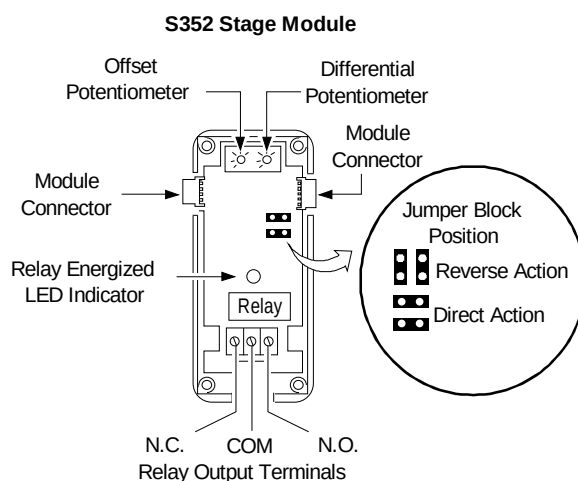

Figure 6: S352 Stage Module Adjustment Potentiometer Locations and Board Layout
2. Set the reverse/direct action (RA/DA) jumper blocks to the desired mode of operation. (See Figure 6.)